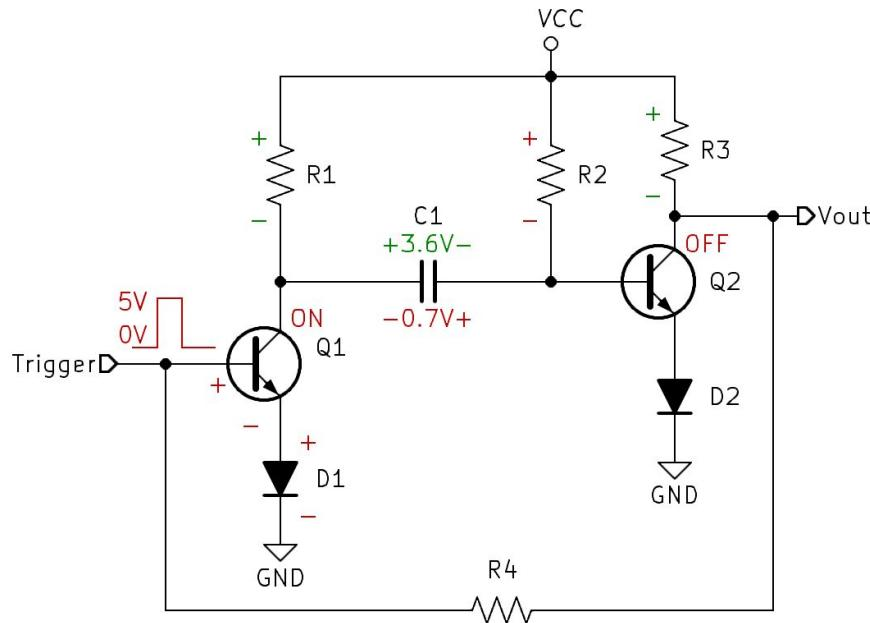

Figure 11.6: Bipolar Junction Transistor Monostable Multivibrator Un-Stable State
- Observe Figure 11.6. As Q1 is biased on from the Trigger signal, Q2 initially will see -3.6V at its base which will turn Q2 off. C1 will begin to discharge the -3.6V through the path of R2, Q1, and D1. Once discharged Q2 will begin to charge and once it reaches 0.7V, the base of Q2 will now have 1.4V ($V_{C1} + V_{D1}$) this will turn on Q2 which will then force Q1 back off returning the circuit to its stable state.